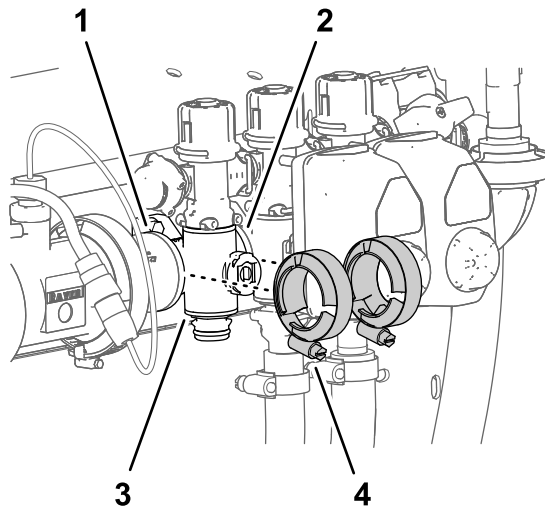

Figure 127
- Remove the 2 flange clamps that secure the section-manifold valve to the flanges of the adjacent components (Figure 127).